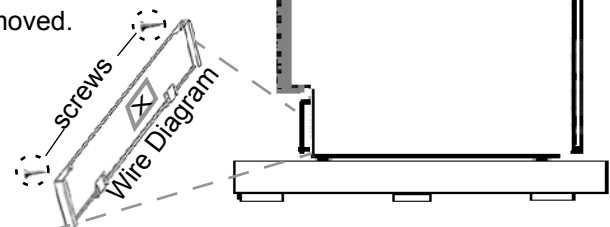
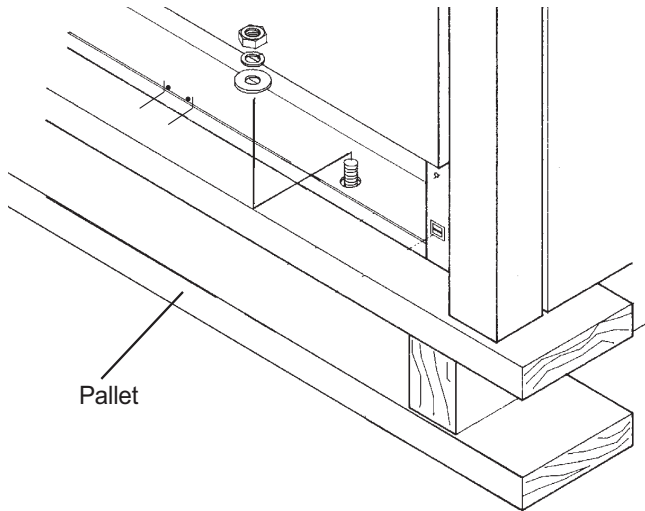

Figure 4: Remove Kick Panel
Figure 5: Removal of the Four Shipping Bolts
3. The ranges are held to the pallet by four (4) bolts (see *Figure 5*). The front kick panel must be removed to access the bolts in the front of the pallet (see *Figure 4*). To remove the Kick Panel, remove the two screws below the lower corners of the oven cavity and lift the Kick Panel up and away from the two projections on the range's cast base (see also "*Kick Panel Adjustment*" on page 25).